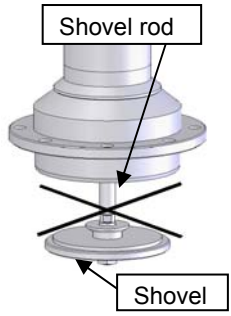

Fig. 4 Shovel part
- Before installing the pump, verify that the shovel at the bottom is NOT sticking out. Failure to follow this instruction may result in damage to the shovel rod causing a pump failure. (Fig. 4)
- Do not put your hand between the pump body and shovel. Hand injury may be caused by a sudden movement. (Fig. 4)